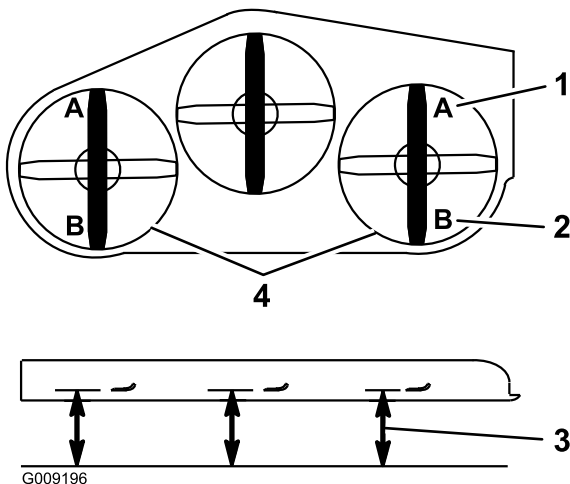

Figure 93
9. On both sides of the deck, measure from the level surface to the front tip of the blade (Position A). The measurement should read 7.6 mm (3 inches); refer to Figure 93.
measurement should read 8.3 cm (3-1/4 inches); refer to Figure 93.